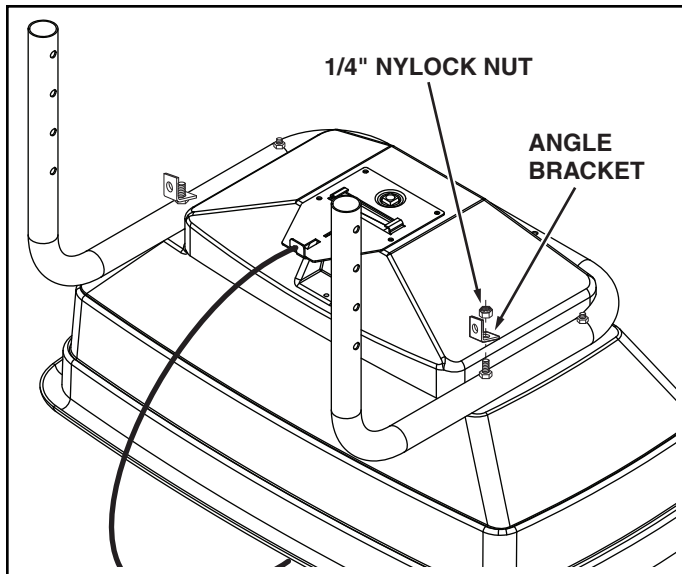

FIGURE 1
- 1. Turn the spreader upside down as shown in figure 1.
- 2. Assemble two angle brackets and two 1/4" nylock nuts onto the ends of the longer bolts already assembled to the frame tube. **Do not tighten yet.** See figure 1.